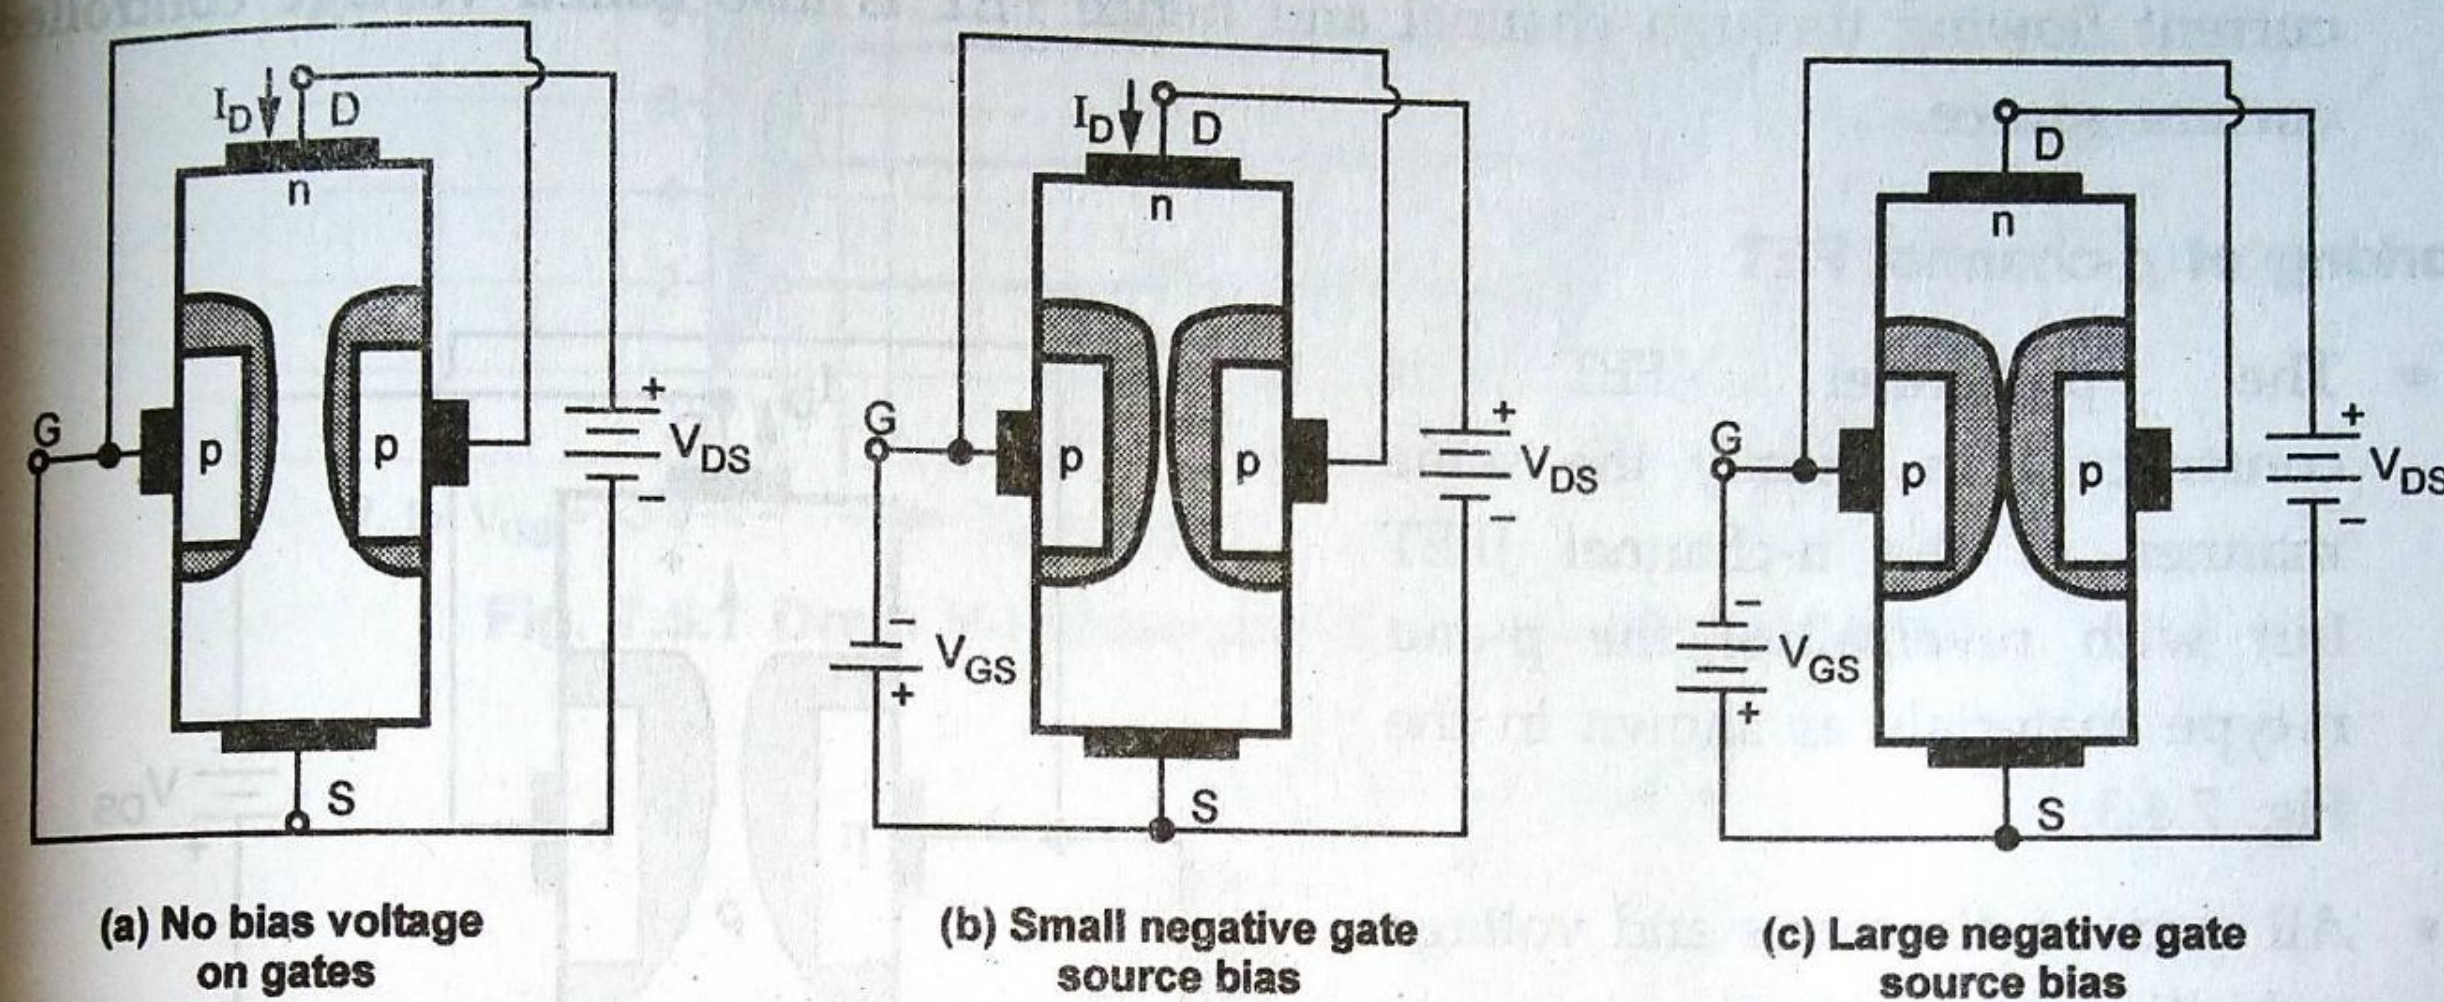

Fig. 7.4.2 The effect of gate voltage on channel-width and on drain current I_D
- Fig. 7.4.2 (a) shows that an n-channel JFET with the gate directly connected to the source terminal. When drain voltage V_{DS} is applied, a drain current I_D flows in the direction shown. Since the n-material is resistive, the drain current causes a voltage drop along the channel. This voltage drop reverse biases the pn junctions, and causes the depletion regions to penetrate into the channel. Since gate is heavily doped and the channel is lightly doped, the width of the depletion region will mainly be spread in the channel shown in the Fig. 7.4.2 (a). This penetration depends on the reverse bias voltage.
- If we go on increasing the reverse bias voltage to the gate as shown in Fig. 7.4.2 (b) and (c), depletion regions will increase more and more, and stage will come when the width of the depletion regions will be equal to the original